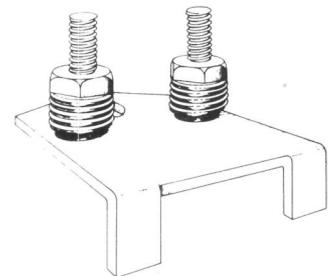
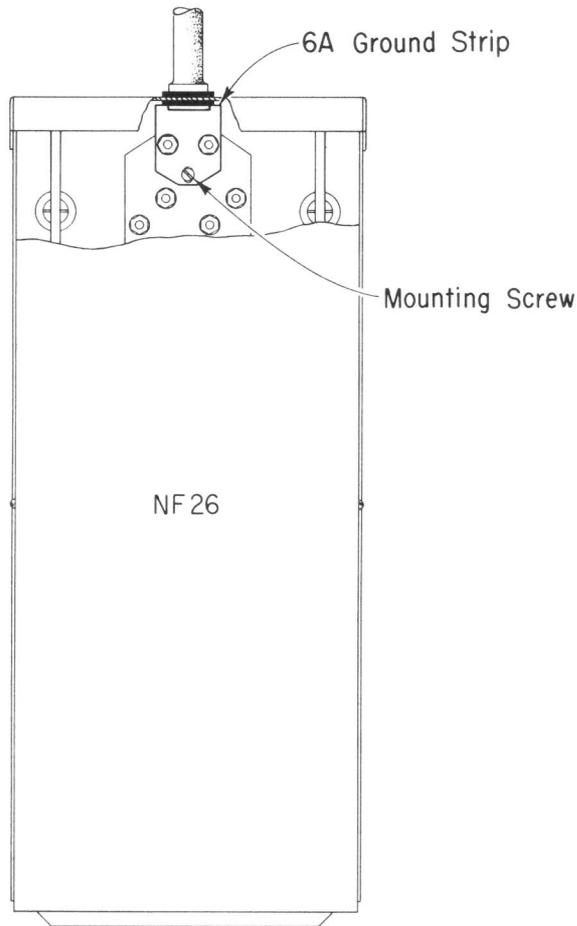

Fig. 65—6A Ground Strip
Fig. 66—6A Ground Strip Installed in NF26 Cable Terminal
**7.07** The 6A ground strip (Fig. 65) consists of a brass plate with two binding posts. It is intended for use in 26-pair NC, NE, NF, and NH cable terminals and is mounted in the same manner as the 5A strip (see Fig. 66). The 6A ground strip has a capacity of 10 wires.